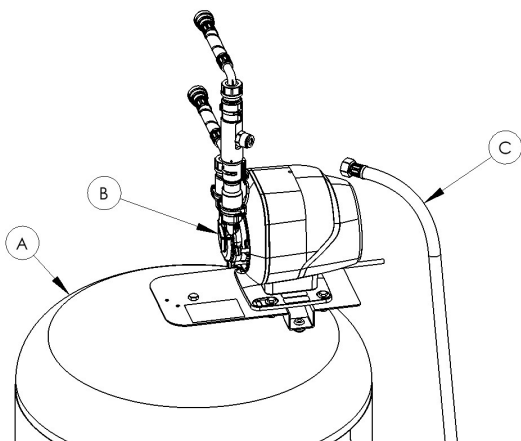

Fig. 6
- ⌘ Fit the upper end of the flexible hose to the connection on the pump and tighten for a leak tight seal (**Do not over tighten**), see Fig. 6.